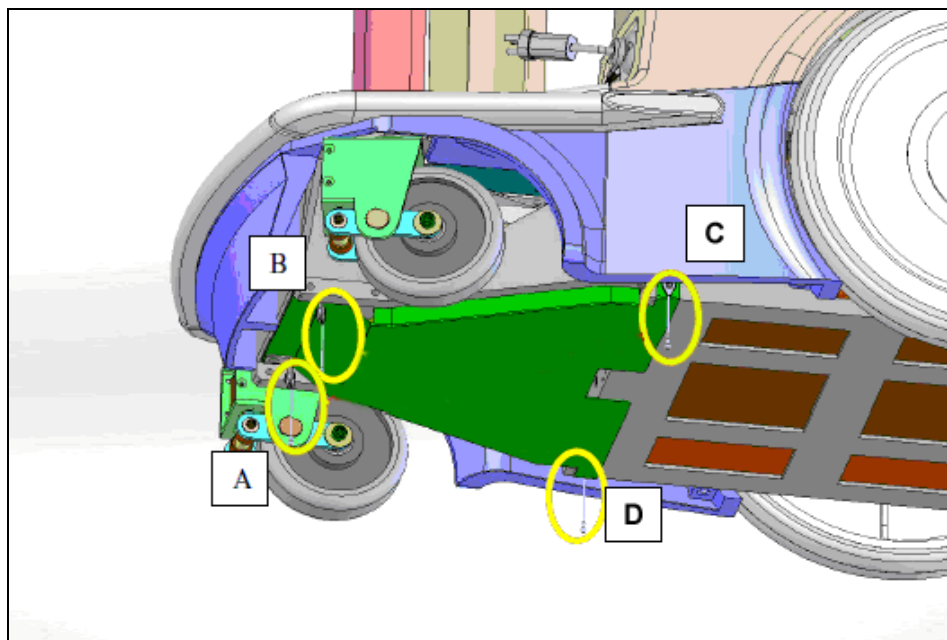

Figure 6 - Bottom view of the mobile unit
- If arrestors are mounted at position A or B: 15 minutes (see figure 6)
- If arrestors are mounted at position C or D: 120 minutes (see figure 6)